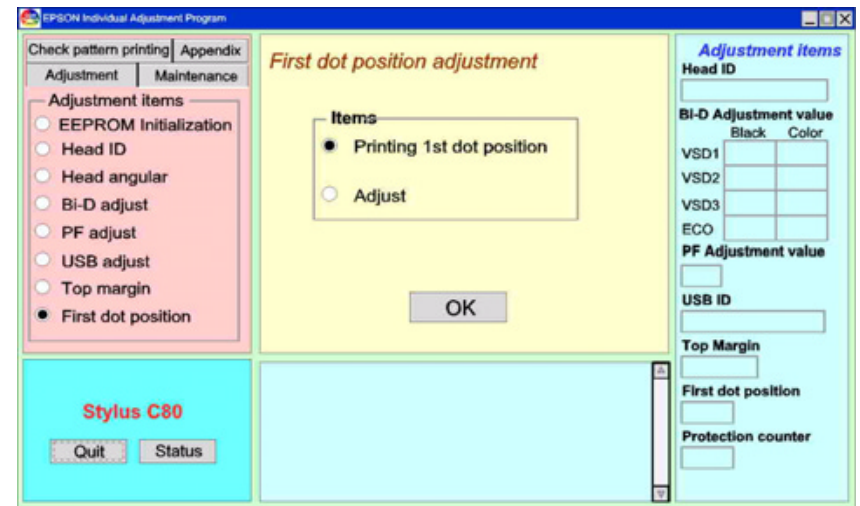

Figure 5-60. 1st Dot Position Adjustment Initial Screen
10. Press "Previous" button to return the program screen to the initial screen as mentioned Figure 5-60.